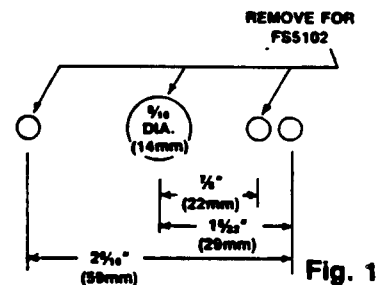

Fig. 1
- 2) Remove appropriate knockouts for switch being used. Refer to Fig. 1.